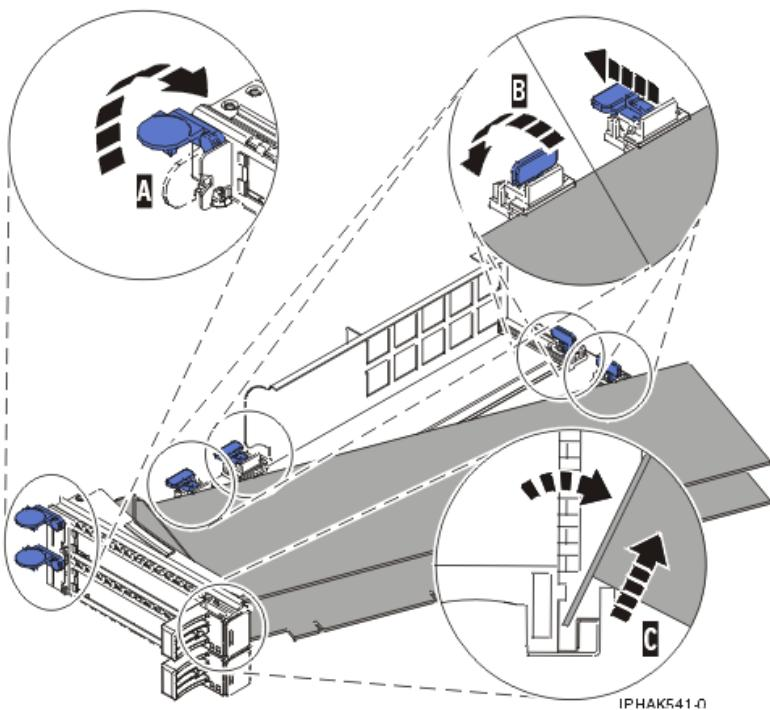
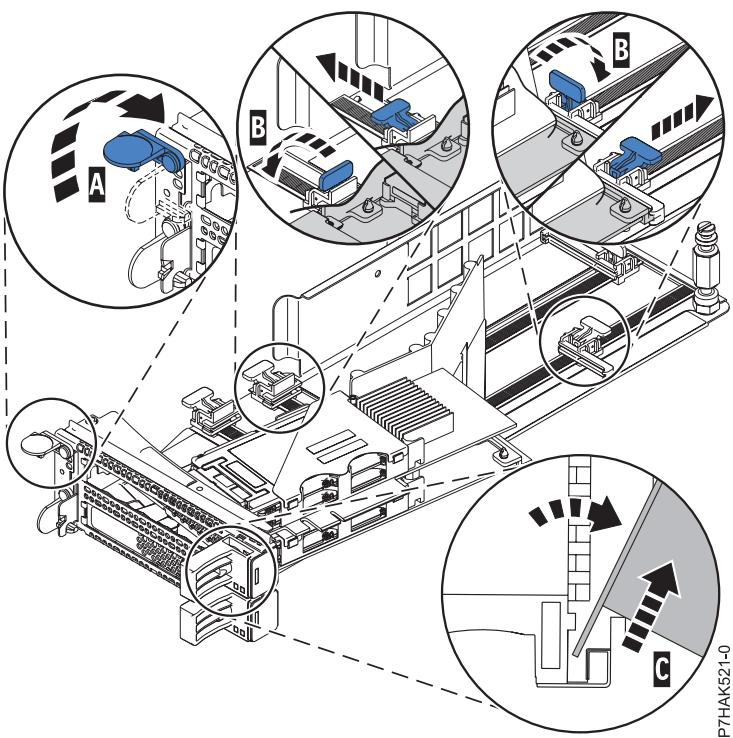

Figure 141. Adapter removed from the PCI adapter cassette
Figure 142. PCIe RAID and SSD SAS adapter removed from the PCI adapter cassette
- a. Unlock the adapter retainers (**B**) by rotating the retainer clips (**A**) into the horizontal position. See Figure 141 on page 156. If you are removing a PCIe RAID and SSD SAS adapter, see Figure 142 on page 156.